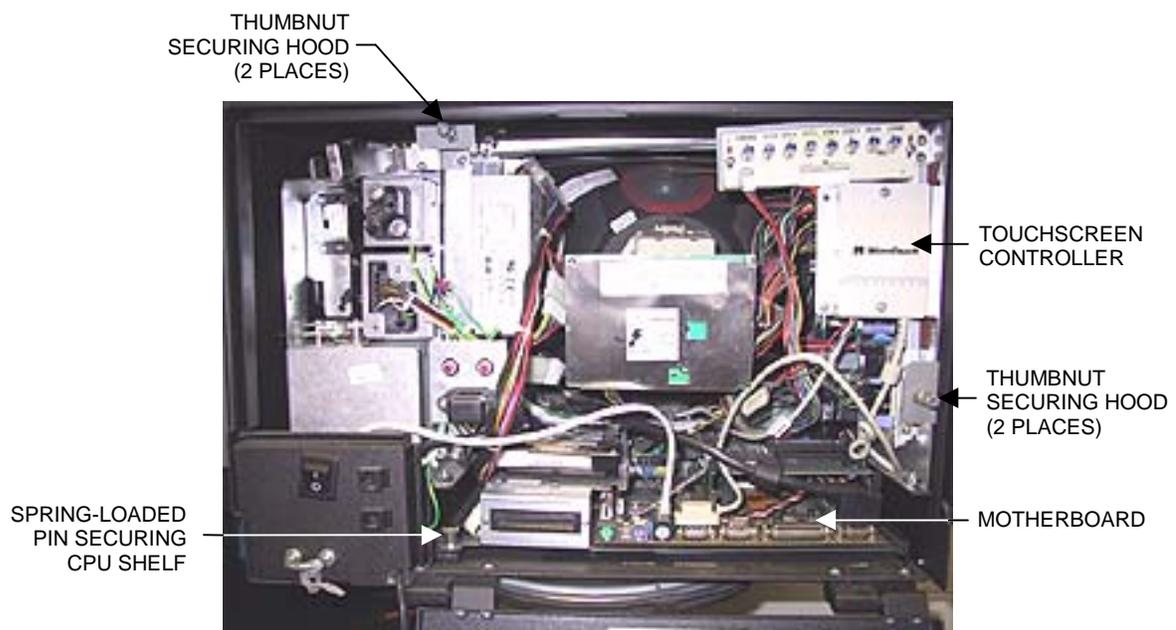

FIGURE 1 - SLIM MAXX/MAXX SELECT - CPU SECTION
5. Remove the two screws fastening the touchscreen controller (see Figure 1) to the game and remove the controller. Then disconnect the touchscreen controller cable from the back of the controller and disconnect the Molex connector (orange and gray wires) running from the touchscreen controller cable to the main power harness.
6. Connect the touchscreen controller cable in the back of the controller, then fasten the controller to the game with the existing hardware (see Figure 1). Also connect the Molex connector (orange and gray wires) to the main power harness.
3. Remove the centronics cable from the clamp fastened to the hard drive (See Figure 1).
4. Remove the screw and washer fastening the hard drive mounting plate to the rear door and carefully pull the hard drive assembly away from the door. See Figure 1.
5. Remove the 4 screws and shoulder washers fastening the hard drive to the mounting plate. See Figure 1.
6. Unplug the 4-pin power connector and the ribbon cable from the hard drive and remove the drive. See Figure 1.